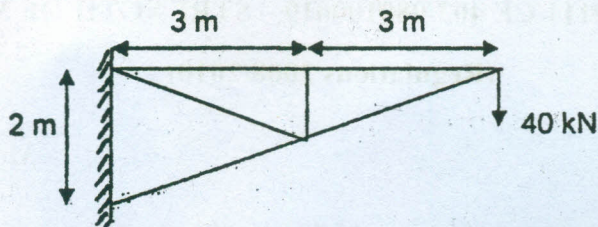

Fig. Q. 11 (b)
- (b) Determine the vertical deflection at the free end of the cantilever truss shown in Fig. Q 11 (b). Take cross sectional area of compression members as 850 mm² and tension members as 1000 mm². Modulus of elasticity, E = 210 GPa for all the members. (16)